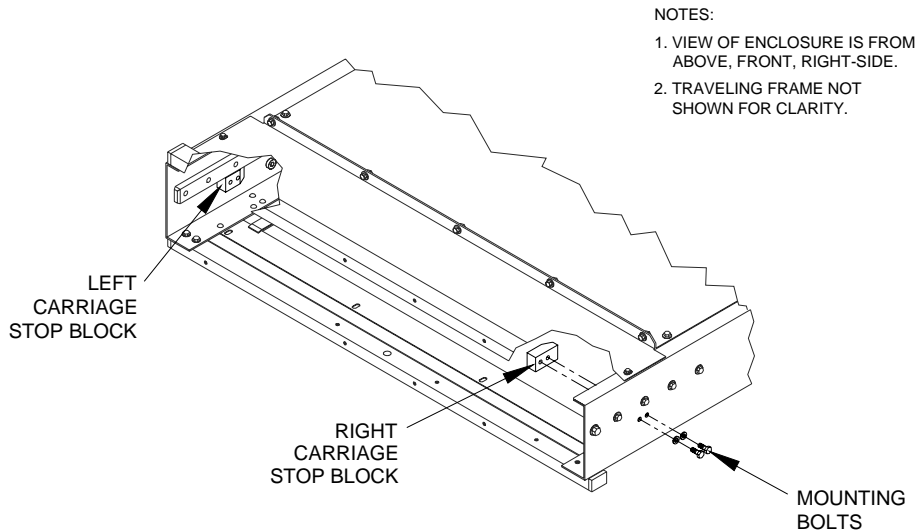

FIGURE 4-14: CARRIAGE STOP BLOCK LOCATIONS
- e. Refer to **Figure 4-14**. The carriage stop block mounting bolts are accessible from under vehicle, or from the front of enclosure. Remove bolts and both stop blocks.